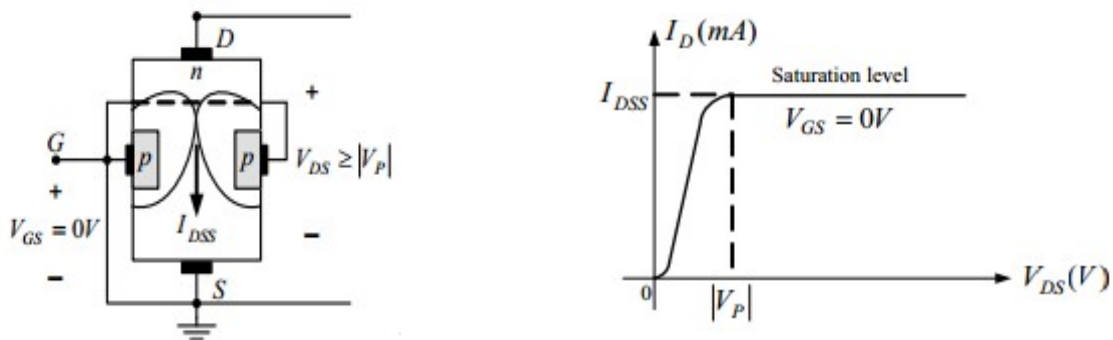

Fig. 15-4
- When  $V_{GS} = 0\text{ V}$  and  $\geq V_{PDS}$ :  $I_D$  remains at its saturation value  $I_{DSS}$  beyond  $V_P$ , as shown in Fig. 15-4.